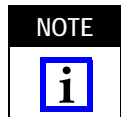

Figure 1
This instruction sheet covers the termination procedure for OPTIMATE DNP fiber optic plug assemblies shown in Figure 1. The plug assemblies are designed to be used with 1000- μ m plastic fibers.
2. DESCRIPTION (Figure 1)